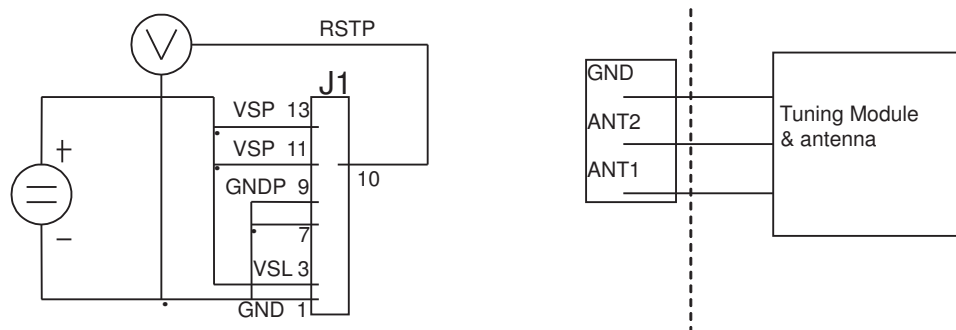

Figure E-1. Noise Testing Configuration
The test pin RSTP at connector J1 pin 10 carries an analog output voltage indicating the receive signal strength. This voltage should be measured in combination with the antenna RI-ANT-G02. The necessary set-up for this test is shown in Figure E-1. This configuration operates the RA-RFM from a battery and has no interface line connected.
Try the configuration shown in Figure E-1. If this configuration shows bad noise conditions (RSTP voltage more than approximately 1.0 VDC) then the problem is radiated noise.
1. When the configuration of Figure E-1 shows good noise conditions (RSTP voltage less than 1.0 VDC) then the problem is conducted noise.